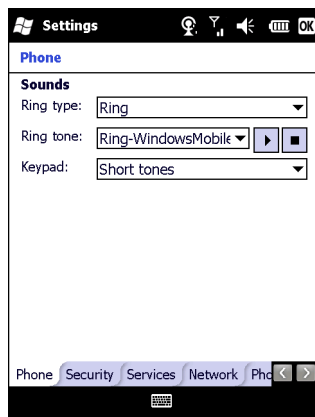

Figure 5-13 MC75A Phone Window - Phone Tab
1. From the **Phone** tab (Figure 5-13), select the **Require PIN when phone is used** check box under **Security**.
1. From the **Phone** tab (Figure 5-13), tap **Change PIN**.
1. From the **Phone** tab (Figure 5-13), deselect the **Require PIN when phone is used** check box.